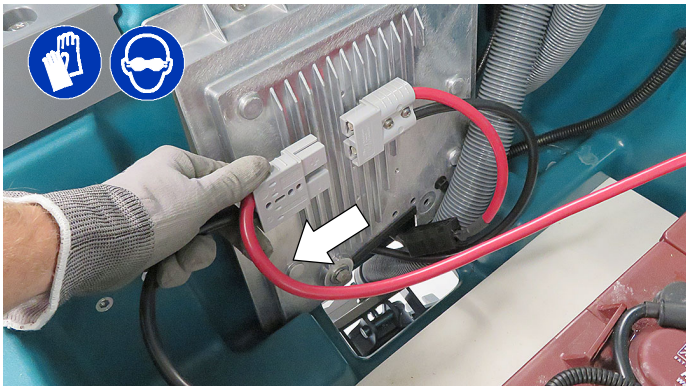

Fig. 1
3. Disconnect battery cable connector from the battery pack (Figure 1).